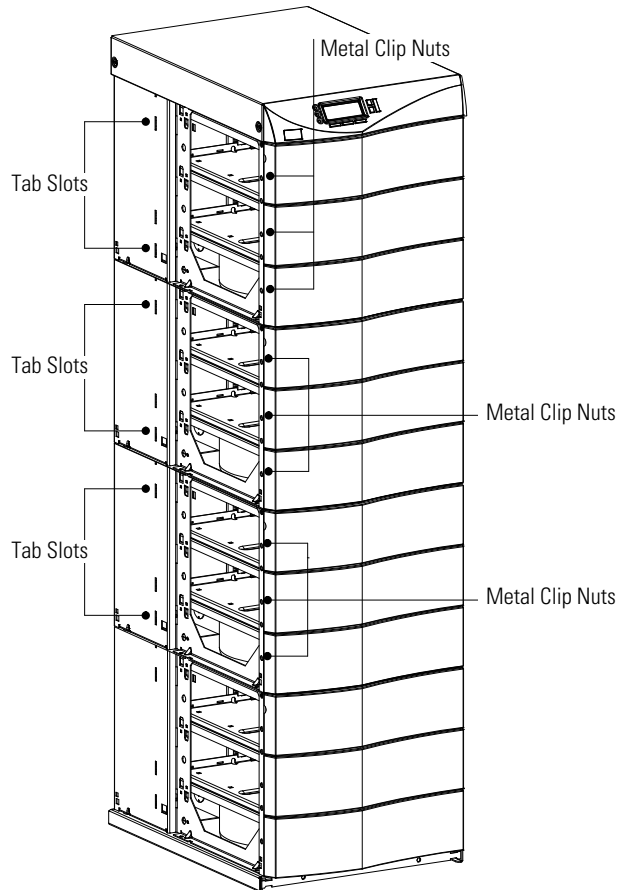

Figure 2. Metal Clip Nut and Tab Slot Locations
4. Install six metal clip nuts (nine clip nuts for 12-slot cabinets) onto each side flange along the front of the cabinet (see Figure 2).
Insert the two offset tabs on the rear edge of the ear into the matching tab slots on the cabinet side frame (see Figure 2). Pivot the ear forward until it is flush against the cabinet side frame. Secure each ear with three 1/4-20 × 1/2" Phillips-head bolts; screw the bolts into the metal clip nuts installed in Step 4.